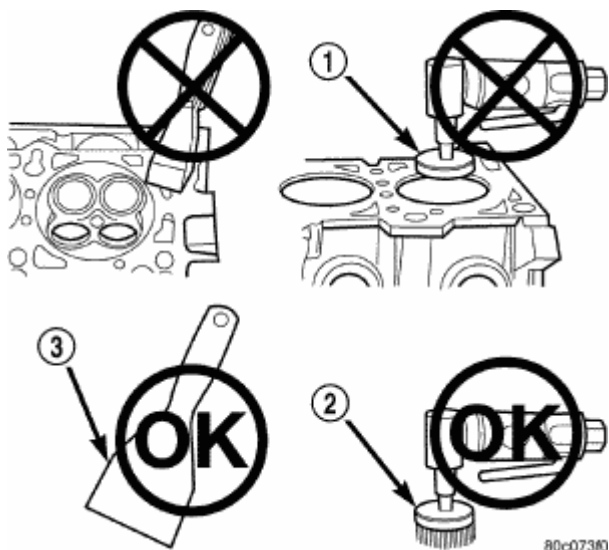

Fig. 3: Proper Tool Usage For Surface Preparation
- High speed power tool with an abrasive pad or a wire brush. See **Fig. 3**
- Plastic or wood scraper. See **Fig. 3**
- Drill motor with 3M Roloc™ Bristle Disc (white or yellow). See **Fig. 3**